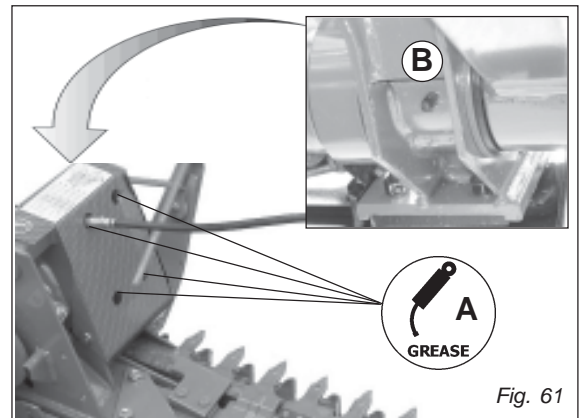

Fig. 61
- Grease points (A and B, Fig. 61).
- Grease point (A and B, Fig. 61).
At the start of each season it is important to check that the connection between the tooth-holding bar (D Fig. 61) and the blade guide (E) is correct.
- unscrew the blade guide (Fig. 61);